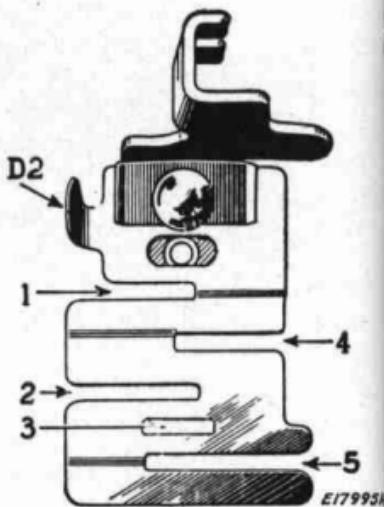

FIG. 51
The distance from the line of stitching to the edge of the material in the slots is regulated by moving the lug **D2**, **Fig. 51** to the right or left.
- (1) Insert one of the laces in slot **1** of the edge-stitcher and the other in slot **4**, **Fig. 51**.
- (2) Adjust the lug **D2** until the edges to be joined are caught by the stitching.
- (3) Slightly overlap the edges of the lace while stitching to keep them against the ends of the slots.
- (4) Loosen both thread tensions to avoid puckering of fine lace.
- (1) Fold the edge of the material to which the lace or ribbon is to be sewn and insert it in the slot **1**, Fig. 51 of the edge-stitcher.
- (2) Insert the lace or ribbon in the slot **4** of the edge-stitcher and proceed to sew.
- (3) Cut away the surplus folded material close to the stitching.
- (1) Cut the piping bias and twice the width of the slot 3 so that it can be folded once.
- (2) Insert the piping with its folded edge to the left in slot 3 and the edge to be piped in slot 4, **Fig. 51.**
- (1) Place the garment under the edge-stitcher and the tape in slot 1 or 4, **Fig. 51.**
- (1) A wide hem may be stitched evenly on sheets, pillow slips, etc., with the edge-stitcher after the hem has been measured and the edge turned.
- (2) Insert the edge in slot 5, Fig. 51, and adjust the lug D2 to stitch as close to the edge as desired.
- (1) To make a uniform width French seam, insert the two edges to be joined, wrong sides together, in slot 1 or 2, Fig. 51 and stitch close to the edge.
- (2) Fold both right sides together and insert the back of the seam in the slot 1 and stitch, allowing just enough margin to conceal the raw edges.
- (1) Fold and crease the material for the desired width of tuck.
- (2) For succeeding tucks, fold the material the desired distance from the previous tuck, running the fold lengthwise over a straight edge, then crease the folds.
- (3) Insert the creased folds in the slot 1, Fig. 51 and adjust the edge-stitcher to the right or left for the desired width of tuck. Use a light tension, short stitch and fine thread and needle.